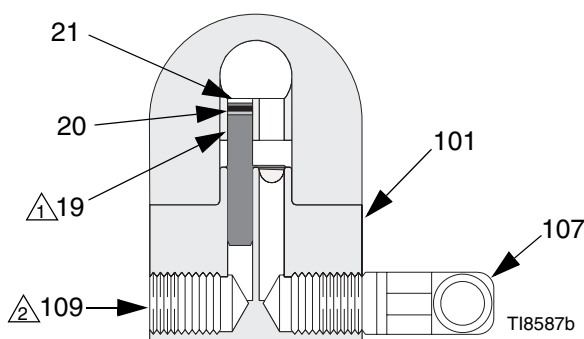

FIG. 3: Non-Circulating Setup Shown (cutaway view)
1. See FIG. 3. See Apply anti-seize lubricant 222955 to the threads and mating faces of the manifold (101), plug (109), and elbow (107), supplied unassembled.
2. Install an elbow (107) in one fluid port of the manifold (101), and a plug (109) in the other port.
3. Install the internal plug (5) in the gun fluid port on the same side as the manifold plug.
4. Connect the fluid supply line to the fluid inlet elbow (107).
5. Install the gun on the manifold, using the four screws (13). Start the threads of all four screws. Tighten the front two screws first, and then tighten the back two. Torque all four screws evenly to 65 in-lb (7.3 N•m).